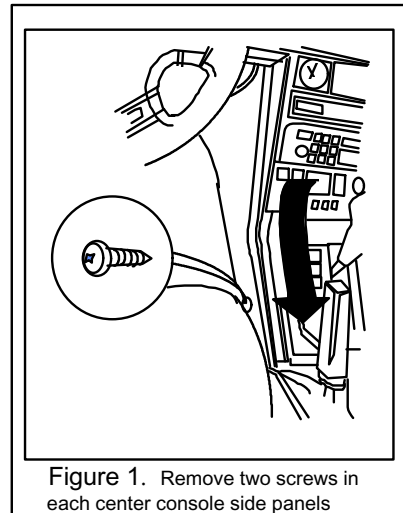

Figure 1. Remove two screws in each center console side panels
2. Pull side panels down and away, and remove (Fig 1).